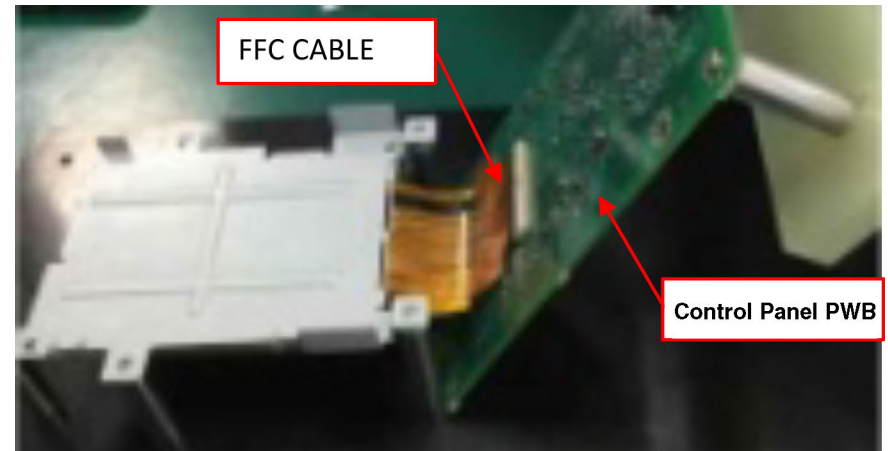

Figure 3 Control Panel PWB removal
5. Release the Control Panel FFC cable, then remove the Control Panel PWB, Figure 3.